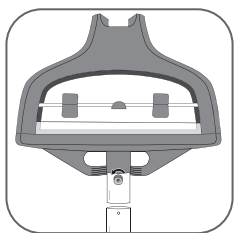

fig. 7
1. Unscrew the hanger fastening screw at the bottom of the hanger. (fig. 7)